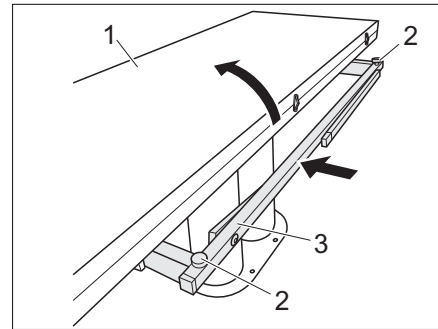

Fig. 107 Reducing the table
- Fold in the table half (Fig. 107,1).
- Screw the two adjusting screws (Fig. 107,2) in.
- Push in the table base (Fig. 107,3).